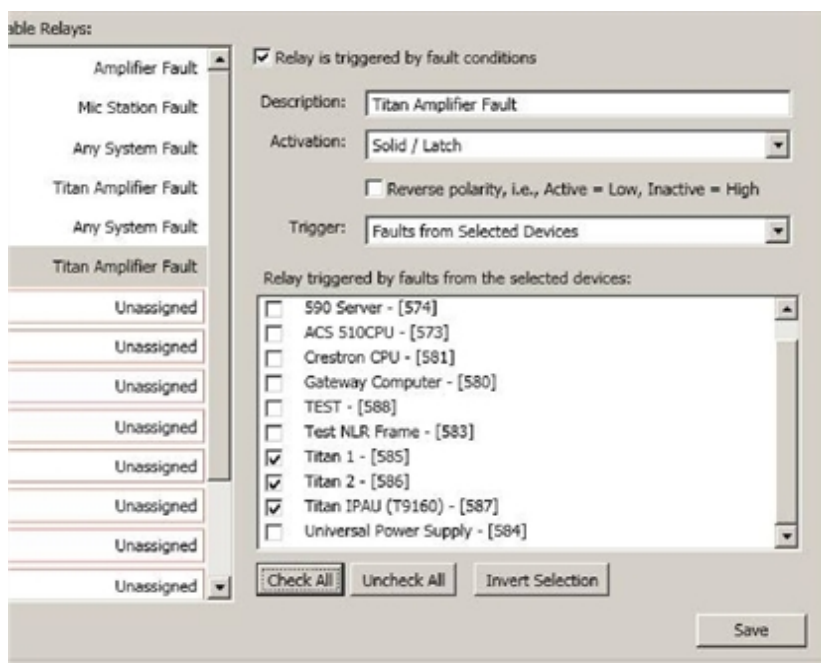

Figure 16-8: Sample Faults From Selected Devices View (Titan Amps)
- **Faults from Selected Devices** (see Figure 16-8) – Trip the relay when there is any fault on a selected device or devices. For example, to trigger a relay for any Titan amp frame, one would select those devices in the device list that appears as in Figure 16-9.